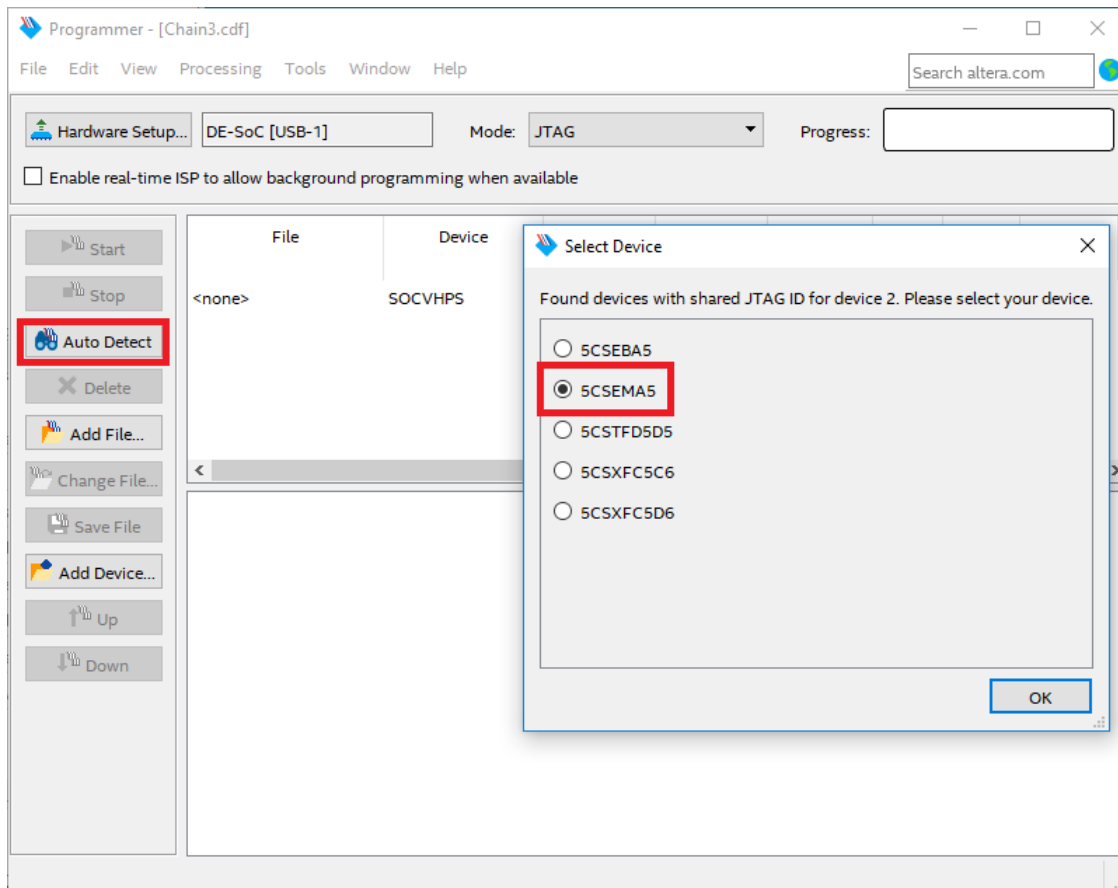

Figure 9: Program the JIC file - Step 3
3. Click Auto Detect and then select the correct device (5CSEMA5), as shown in Figure 9. Both FPGA device and HPS should be detected.